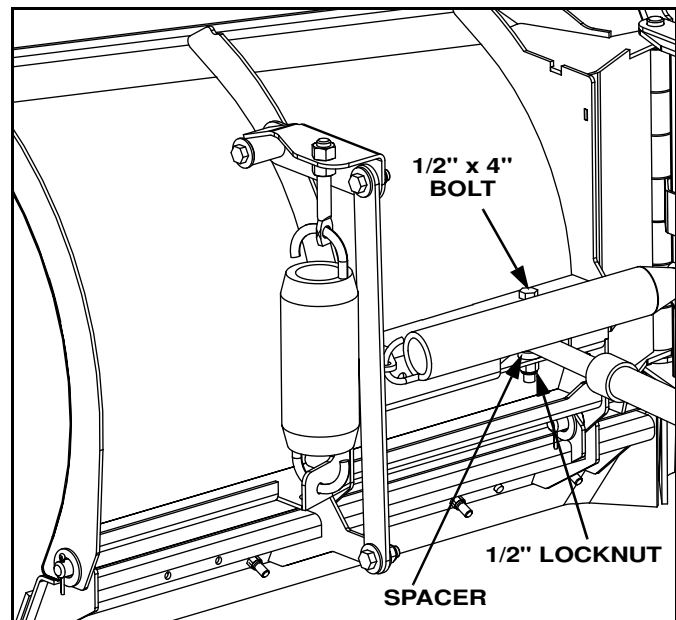

Figure 1-9
19. Extend the swing cylinders using plow control to align holes in cylinder rod with holes in the wings. Secure cylinders to the upper blade frame using 1/2" x 4" bolts, spacers, and 1/2" lock nut. (See Figure 1-9)